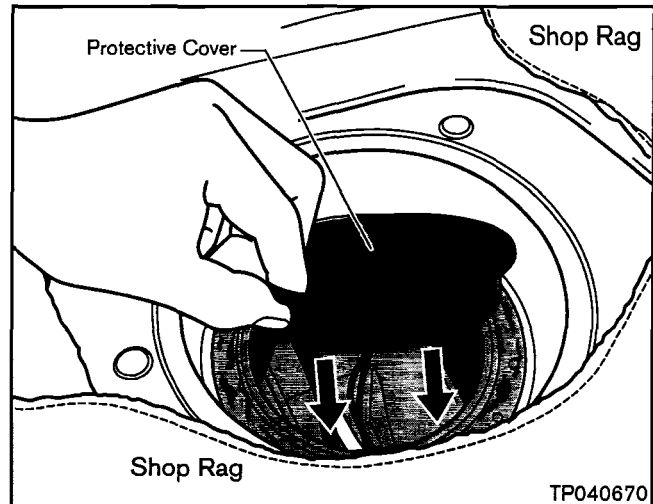

Figure 40
- The O-Ring groove has **NO** or light rust (no scaling) and can be cleaned with a light abrasive pad (such as Scotch Brite Pad 3M #051131-07447) or a copper/bronze bristle brush. See Figures 40 & 41.
6. Insert the Protective Cover (provided in Kit A or Kit B) in the Fuel Tank opening (see Figure 40).